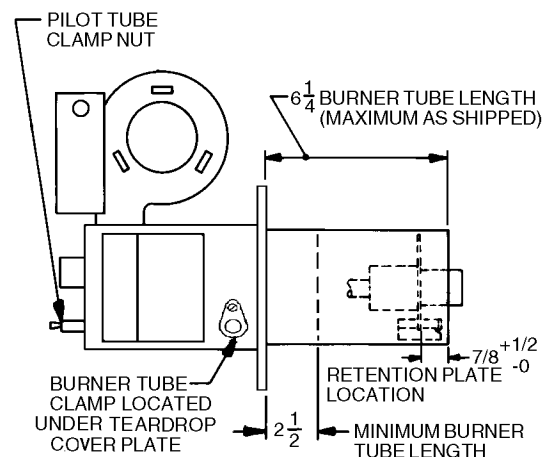

FIGURE 1 Burner Tube Adjustment
Burners are shipped with the burner tube at its fully extended length of 61/4 inches. To reduce the tube length, complete the following steps (see Figure 1):
3. Turn the Pilot Tube Clamp Nut (see Figure 1) counterclockwise, to loosen the Pilot Tube.